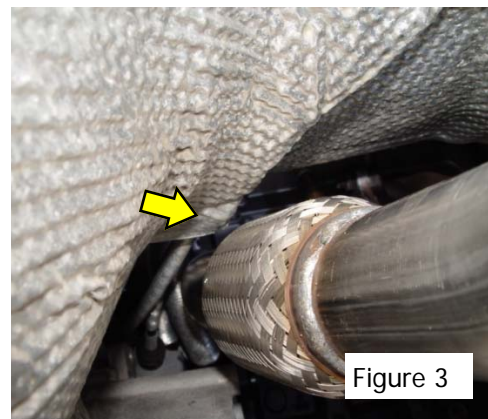

Figure 3
5. After downpipe install, ensure that the flex joint area is not contacting the factory heat shield mat at arrow in Figure 3. The mat is flexible and can be pushed away from downpipe if there is contact.